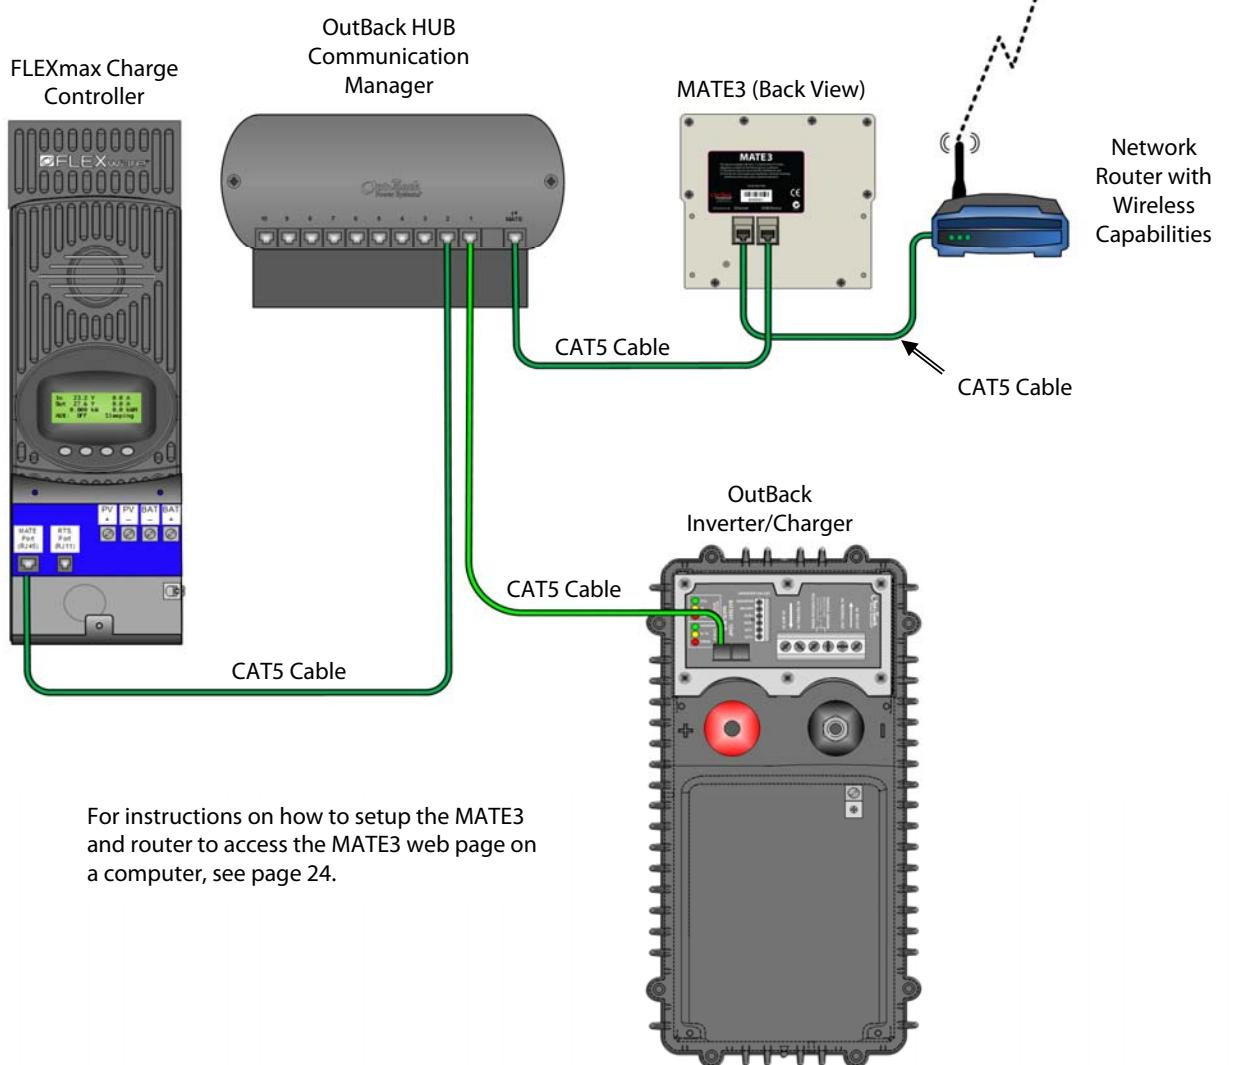
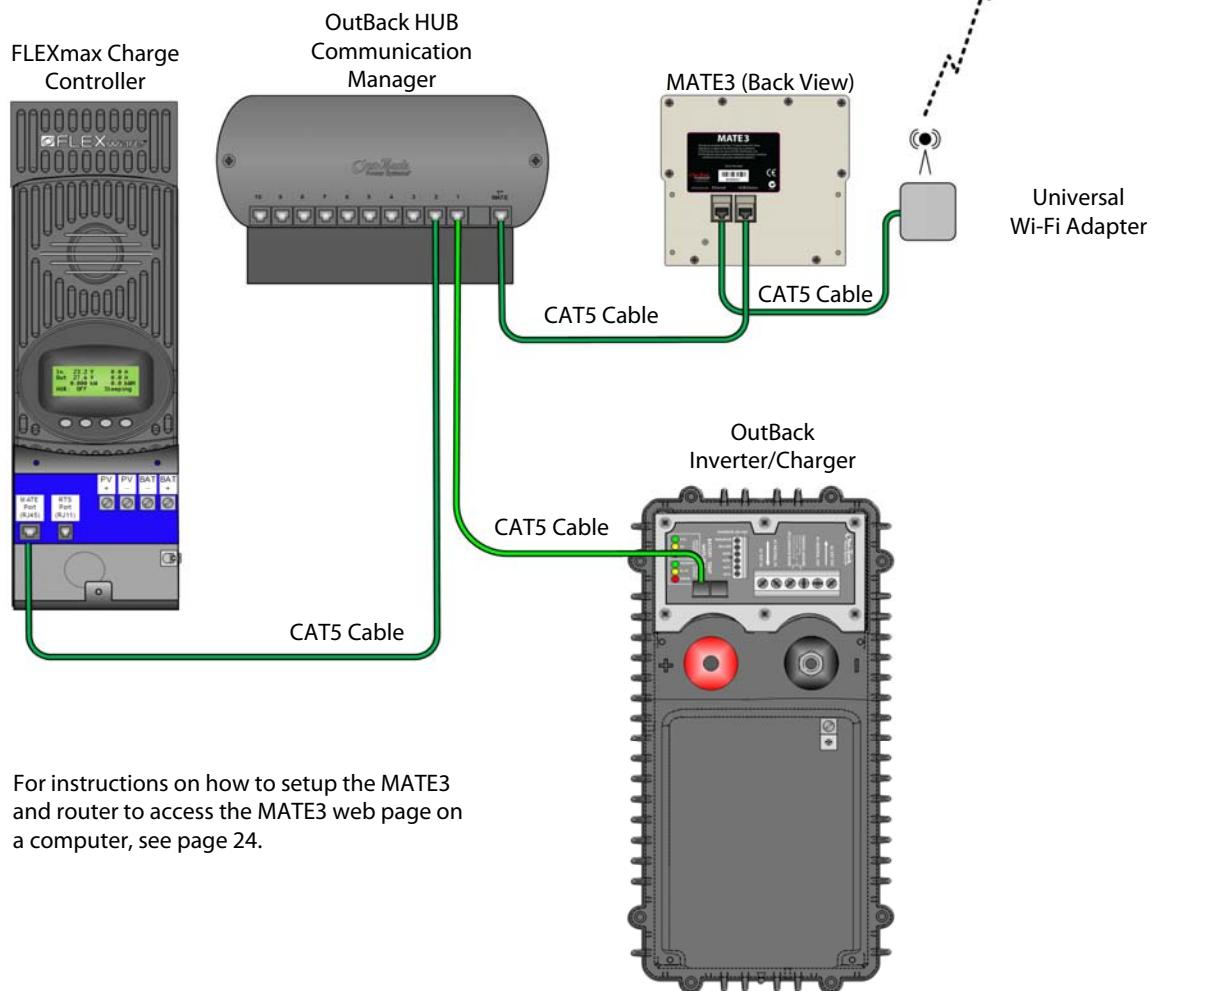

Figure 12 MATE3 Connections to a Computer (Using a Network Router)
Figure 13 MATE3 Connections to a Computer (Wireless-to-Wireless)
- MATE3 to a HUB Communications Manager directly to a network router that connects to a computer. See Figure 12.
- MATE3 to a HUB Communications Manager indirectly to a network router with wireless capabilities: See Figure 13. See important note on page 16 about this configuration.
1. Make the connections illustrated in Figure 12 or Figure 13.